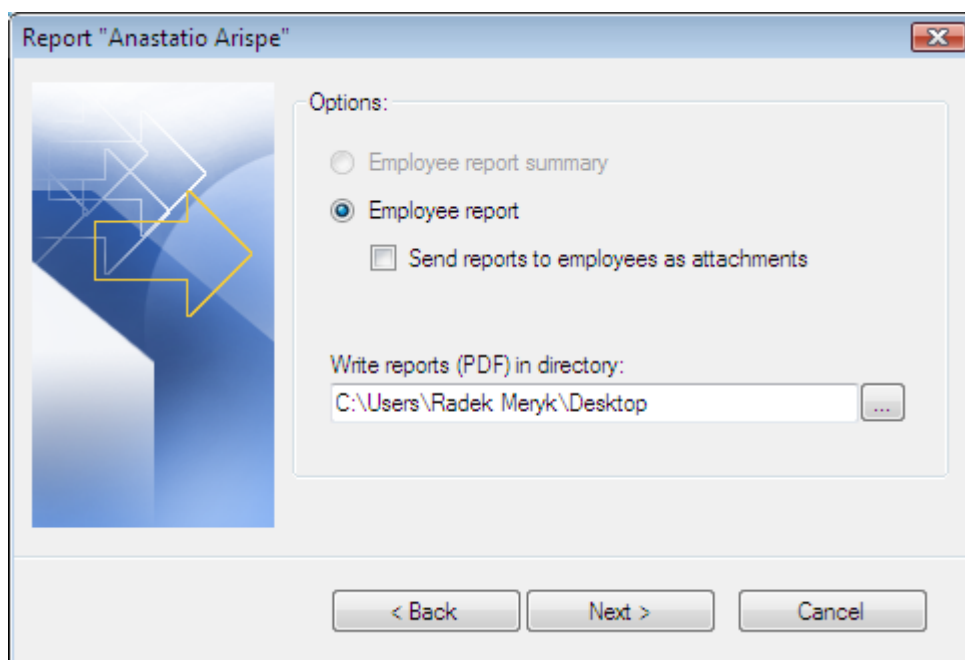

Figure 25. Selecting destination directory for generating reports
Step 3. Select destination directory for PDF files containing reports generated (Figure 25). In addition, you can select option for sending reports to employees as e-mail attachments.